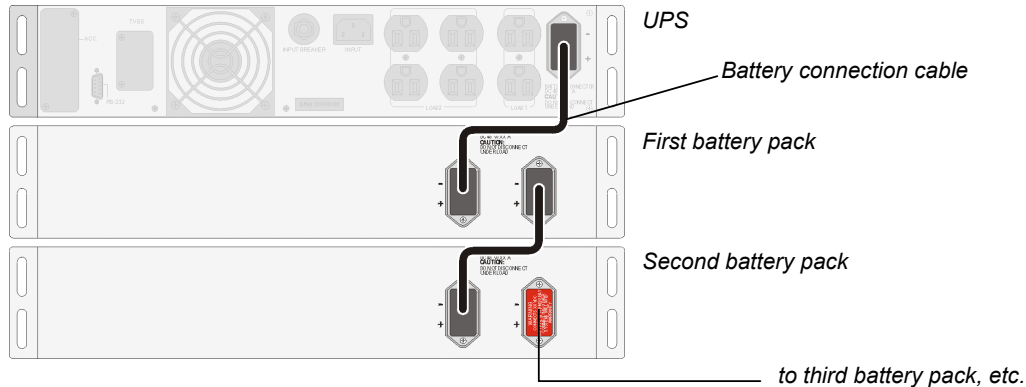

Fig 2.5 Connecting external battery pack(s) to the UPS
2. Utilize the battery connection cable that came with the battery pack to connect the battery pack to the UPS as shown in fig. 2.5. The other connector of the battery pack can be used to connect a second, third etc. pack.
- 1 To switch off the UPS push the OFF-button (2) until a short beep is heard. Release the button after the beep. After a few seconds the UPS will be in 'STANDBY' mode: it will continue keeping the batteries charged. See also fig. 2.5.